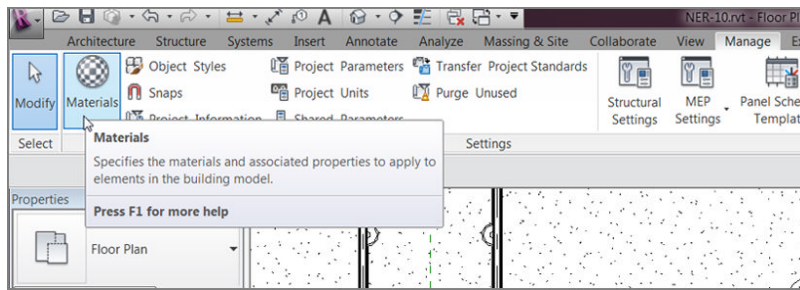

FIGURE 9.67: Clicking the Materials button on the Manage tab
1. On the Manage tab, click the Materials button, as shown in Figure 9.67.